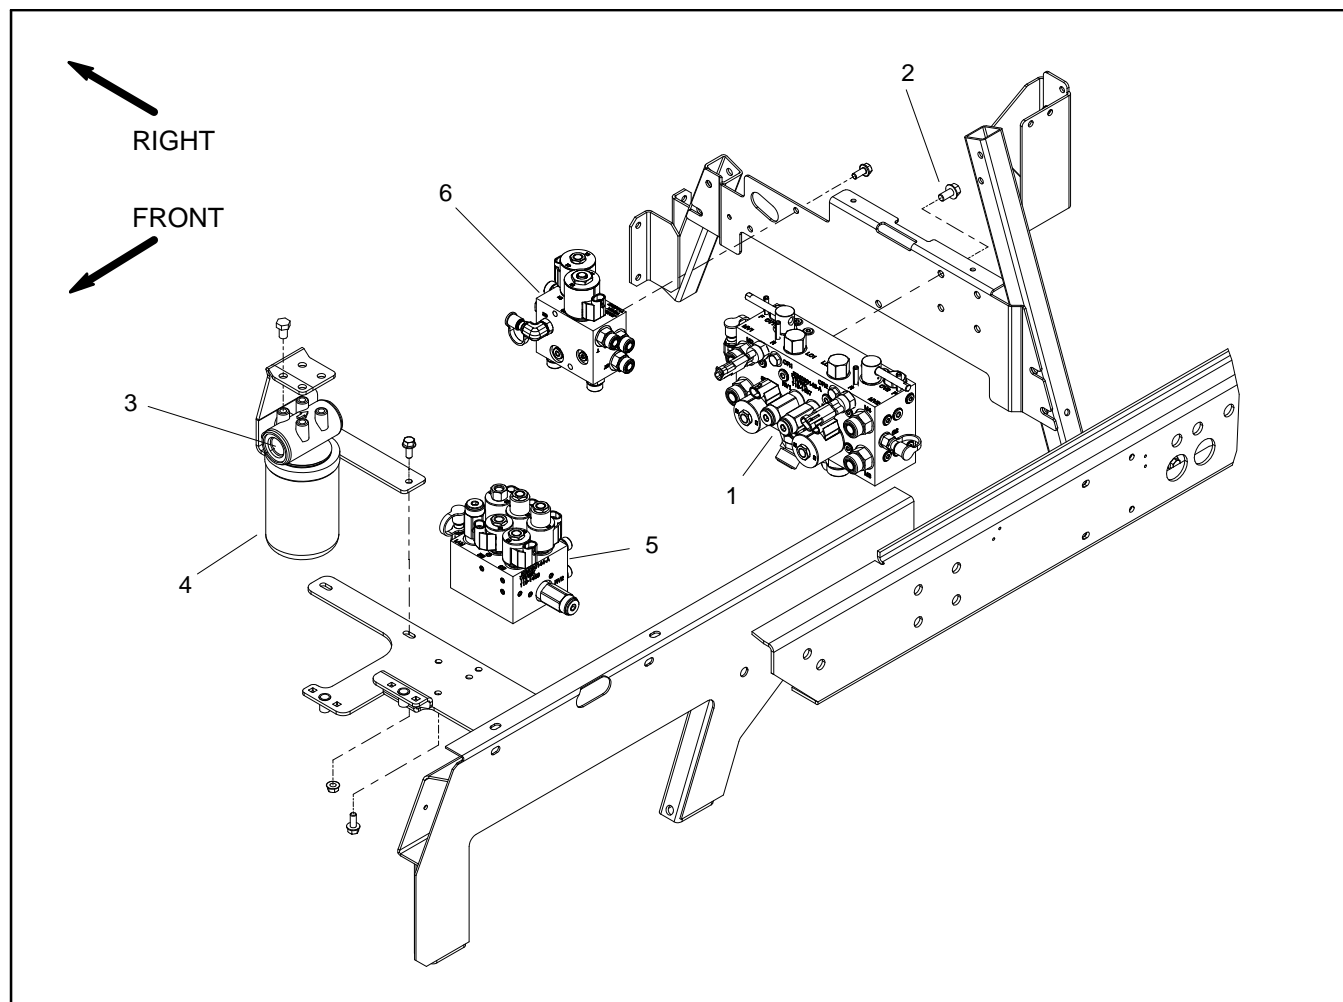

Figure 72
Removal (Fig. 72)
7. Remove hydraulic manifold from the frame using Figure 72 as guide.
Installation (Fig. 72)
2. Install hydraulic manifold to the frame using Figure 72 as guide.